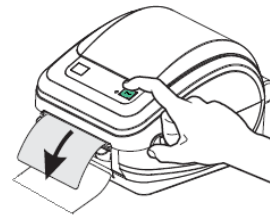

Figure 3.7.9 Printer Feed Button
- 6) *Press feed button (Figure 3.7.9) to feed one blank label.*
- 5) Press the feed button (Figure 3.7.9) to advance the media and confirm label and backing are separating correctly. Thread excess backing paper into the slot located below the dispenser door. This will direct waste paper away from working parts of the machine to maintain smooth operation.
If the labels are dispensing inconsistently, or more than one at a time, it may be necessary to calibrate the media sensor. To do this, hold feed button (Figure 3.7.9)
To reset back to factory default settings, hold feed button (Figure 3.7.9), wait for four green flashes, then release.
To enter dump mode, turn printer off. Hold feed button (Figure 3.7.9) while powering on and release when light flashes green. This will cause printer to print all communications exactly as received.